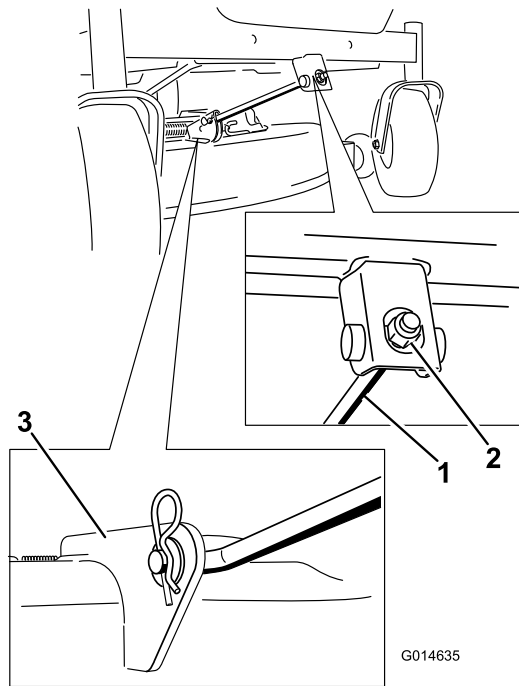

Figure 54
4. Remove the hairpin cotter from the front support rod and remove the rod from the deck bracket (Figure 54). Carefully lower the front of the mower deck to the ground.
- Attach the front support rod to the mower deck with the clevis pin and hairpin cotter (Figure 54).